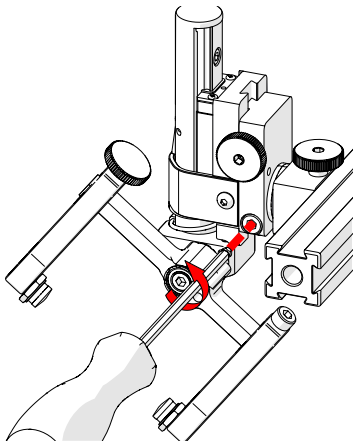

Fig. 102 - Loosen 3 mm screw
2. Using the supplied 3 mm hex driver (*Fig. 39*), loosen the longitudinal adjustment screw (*Fig. 102*).